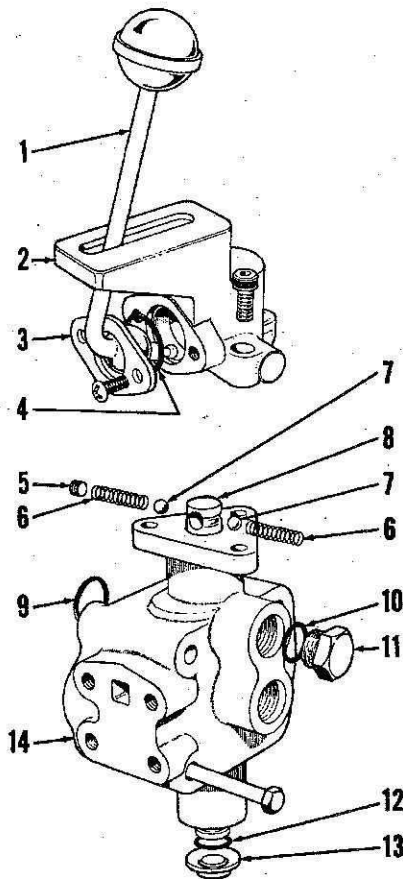
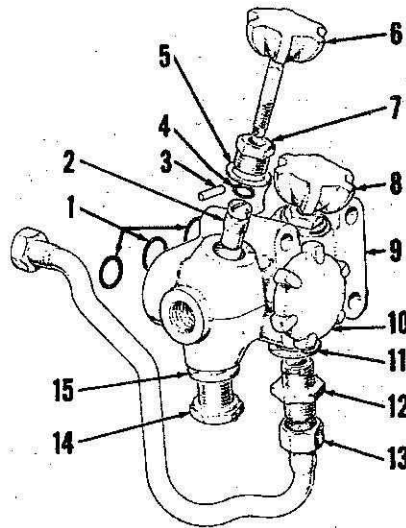

Fig. 216—Exploded view of late type three-way valve assembly.
Fig. 217—Exploded view of early type three-way valve assembly used on early models 770, 880 and 990.
264. Refer to Fig. 216 for exploded view of three-way valve used on all late models and to Fig. 217 for early type three-way valve. The valve mounts on front end of rockshaft ram cylinder and is used to control flow of oil to ram cylinder or to a remote cylinder by closing passage to ram cylinder and opening passage to remote cylinder port.
On late type valve (Fig. 216), valve spool (8) and valve body (14) are not serviced except as a complete assembly which includes all parts shown except port sealing plugs and mounting bolts. All other parts are available separately. Be sure that breather (13) is clean and not damaged in any way. Detent balls (7) and springs (6)
On early type valve (Fig. 217), valve plungers (2) are available sep-